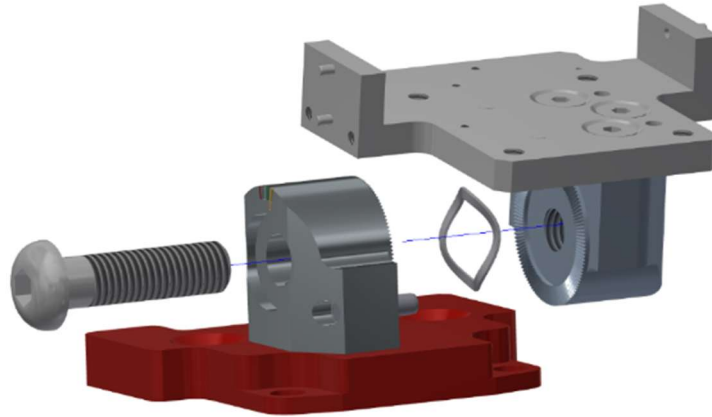

Figure 6-38. Lumbar Posture Gear Assembly (474-3068-A)
- 6.3.8 With a nested wave washer between the two gears, attach the top and bottom assemblies using an M12 X 1.75 X 45 mm SHCS adjustment bolt (Figure 6-38).